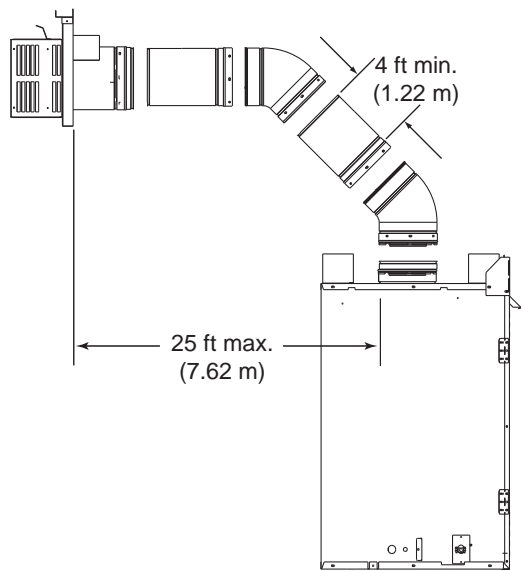

Figure 7.4
To replace the first starter elbow with two 45° elbows, refer to Figure 7.4. All other 90° elbows can be replaced with two 45° elbows.
- Elbows may be placed back to back anywhere in the system as long as the first 90° elbow is a starter elbow except as shown in Figure 7.4.